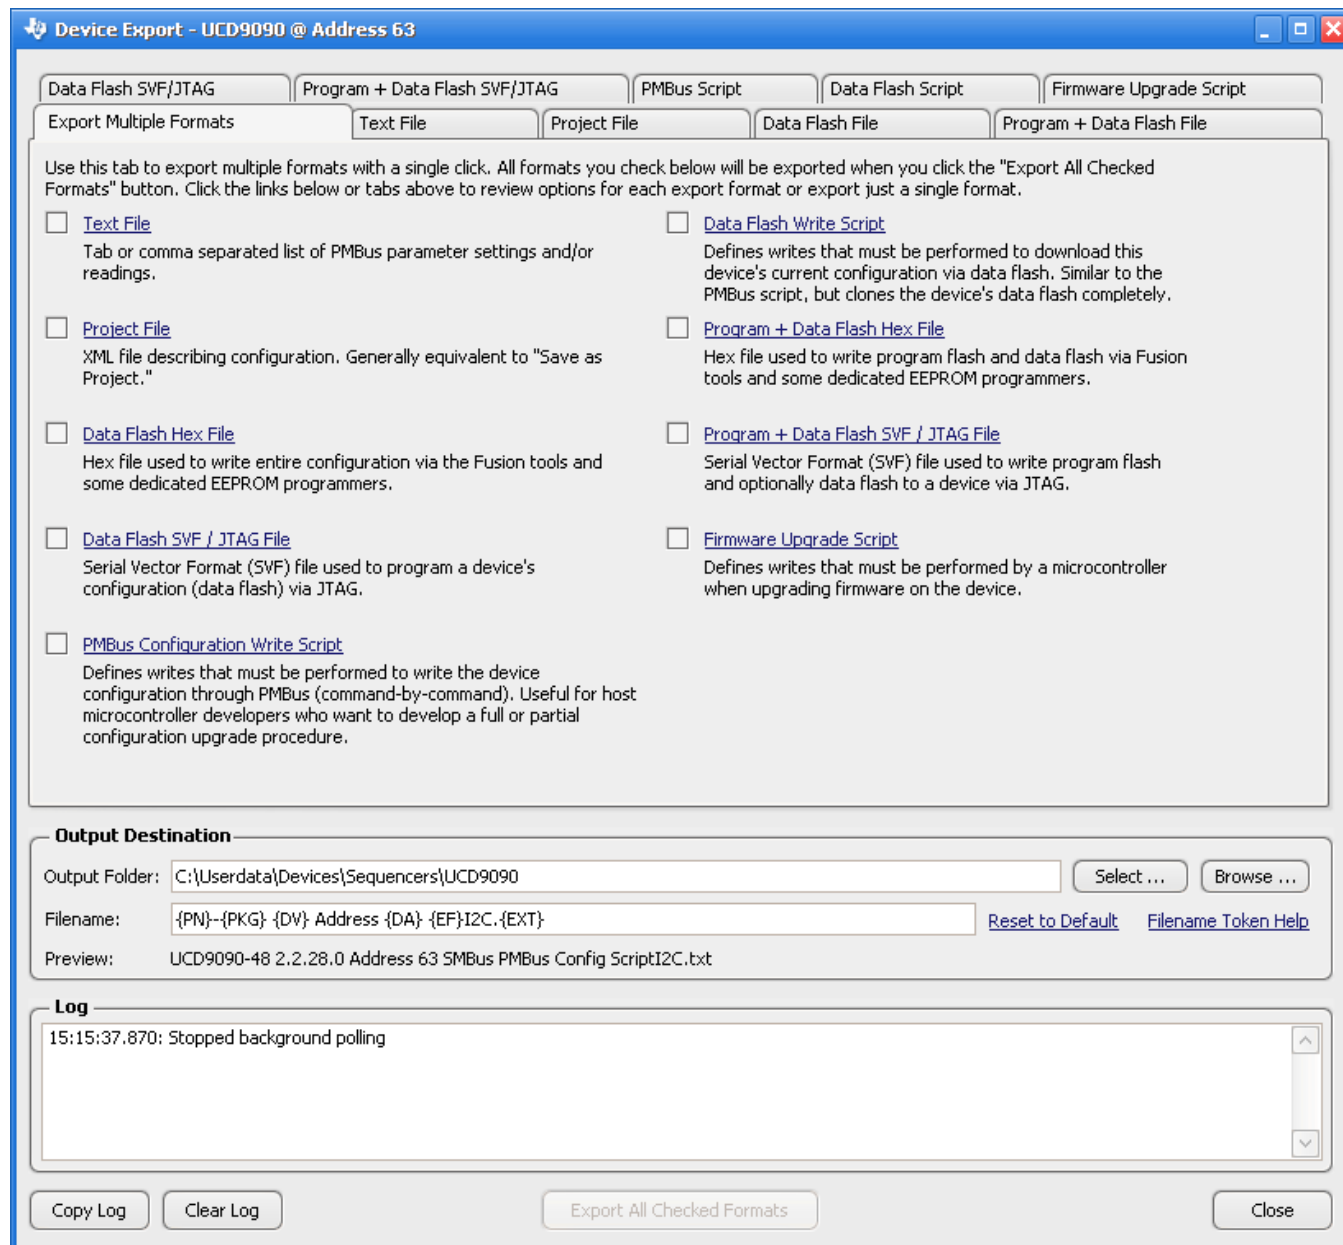

Figure 30. Fusion GUI Device Configuration Export Tool
- Another in-circuit programming option is for the *Fusion GUI* to create a data flash image from the configuration file (Figure 30). Export of the configuration files can be in Intel hex, serial vector format (SVF), or S-record. Download the image file to the device using I²C or JTAG. The *Fusion GUI* tools are usable on-board if the *Fusion GUI* can gain ownership of the I²C bus on the target board.